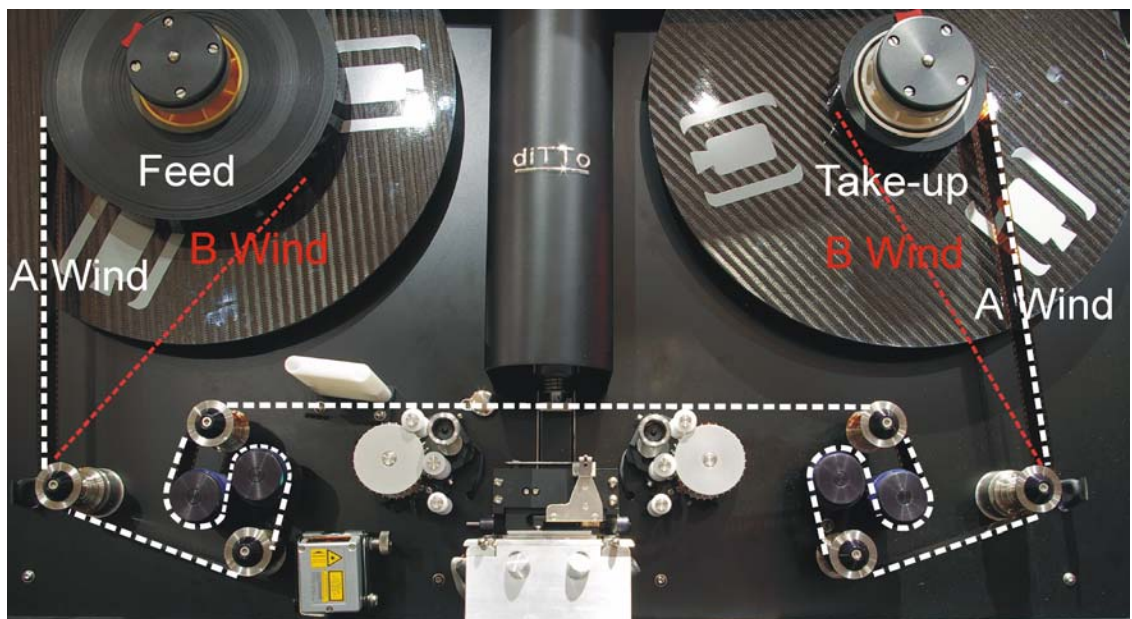

Fig. 37 Initial lacing path
3. Lace film temporarily through gate, leaving sufficient loop for film motion.. The loop lengths should be set so they are just touching the skid plate area of the gate. (See Fig 37/38)